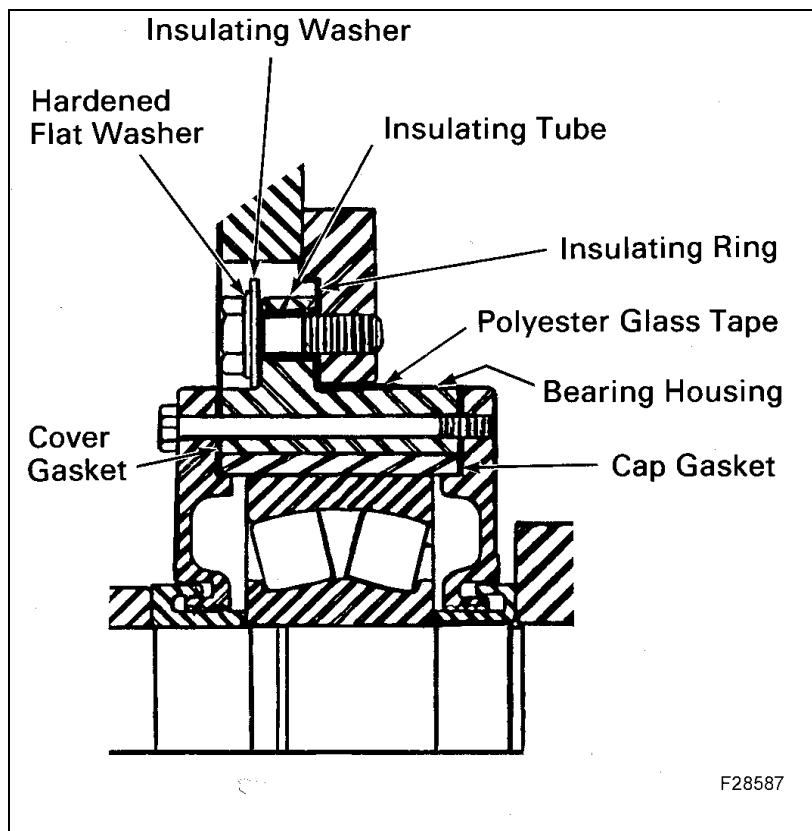
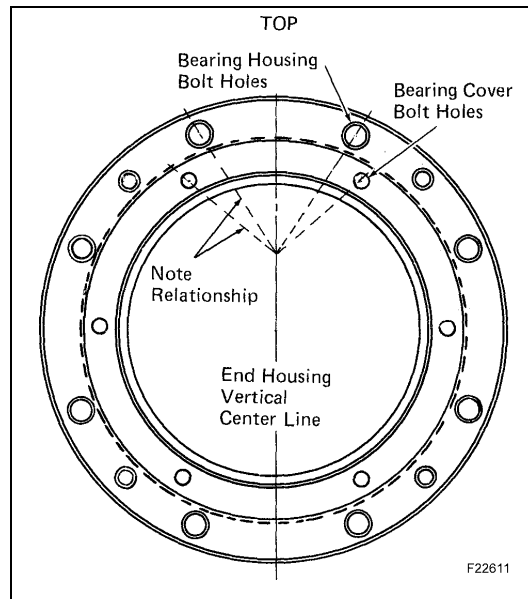

Figure 15 Large Bearing Insulation (NOTE: Similar to new small bearing housing kit)
Figure 16 Installing Bearing Housing
5. Use the following procedure to assemble the bearing. Refer to Figure 15 and Figure 16 during assembly.
15. On traction alternators equipped with the large bearing, position new insulating ring, Figure 15, over aligning studs so that holes in the ring line up with holes in the end housing.
18. Position bearing housing so that bearing housing and bearing cover bolt hole pattern relationship is as shown in Figure 16. This relationship is important to position brush holder studs at top and bottom positions.